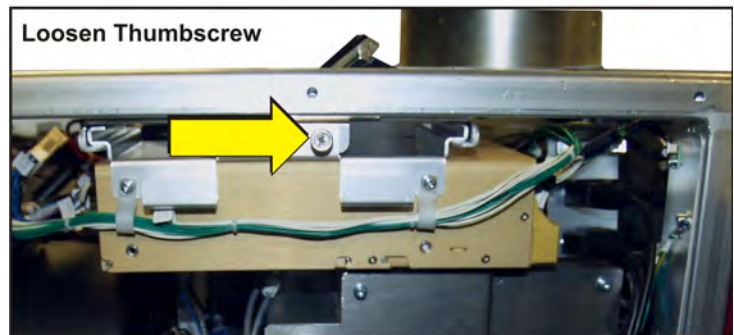

Figure 5-50 Thumbscrew
2. Loosen the thumbscrew. **(Figure 5-50)**